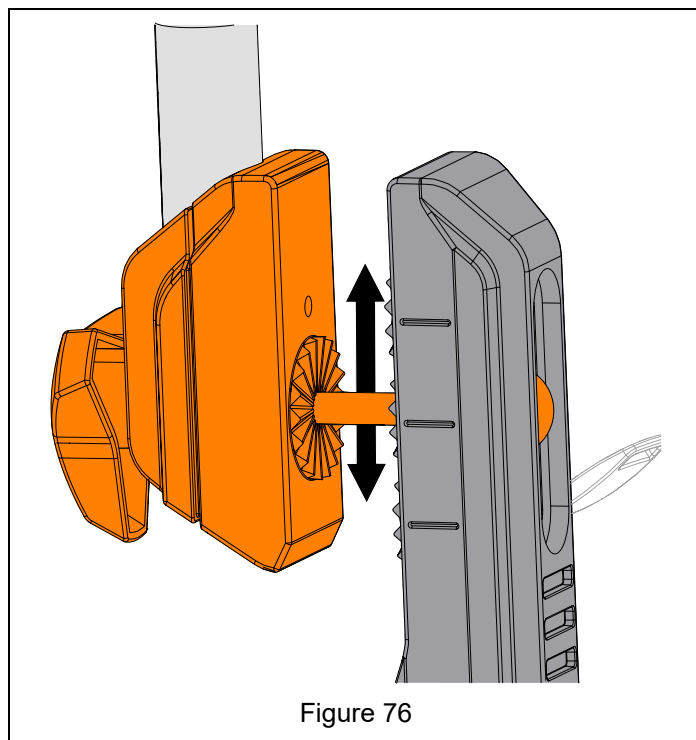

Figure 76
4. Slide handle bar into preferred height. See Figure 76.